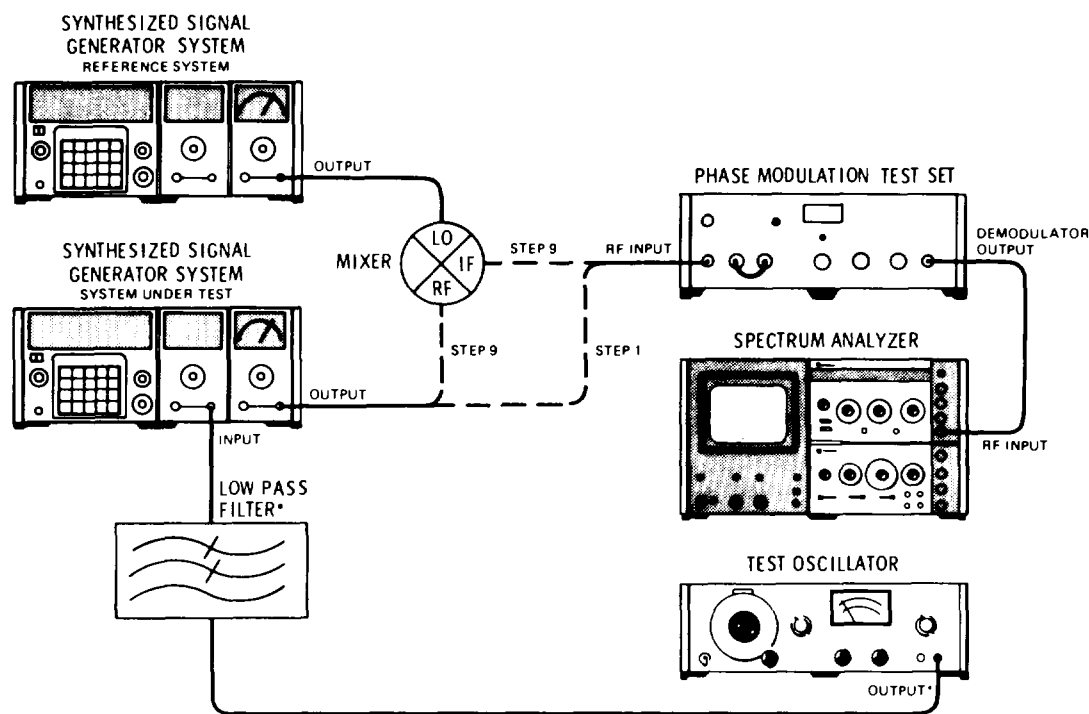

Figure 4-17B. Phase Modulation Distortion Test Setup (Alternate Procedure)
1. Set the Test Oscillator to 1 MHz, connect a 1 MHz low pass filter (50 ohm for 86634A, 600 ohm for 86635A) to appropriate test oscillator output and adjust for 1.7 Vrms output. Connect the rest of the equipment as shown in Figure 4-17B.
9. Set the center frequency of the system under test to 1200 MHz. Connect the mixer and the reference system as shown in Figure 4-17B.